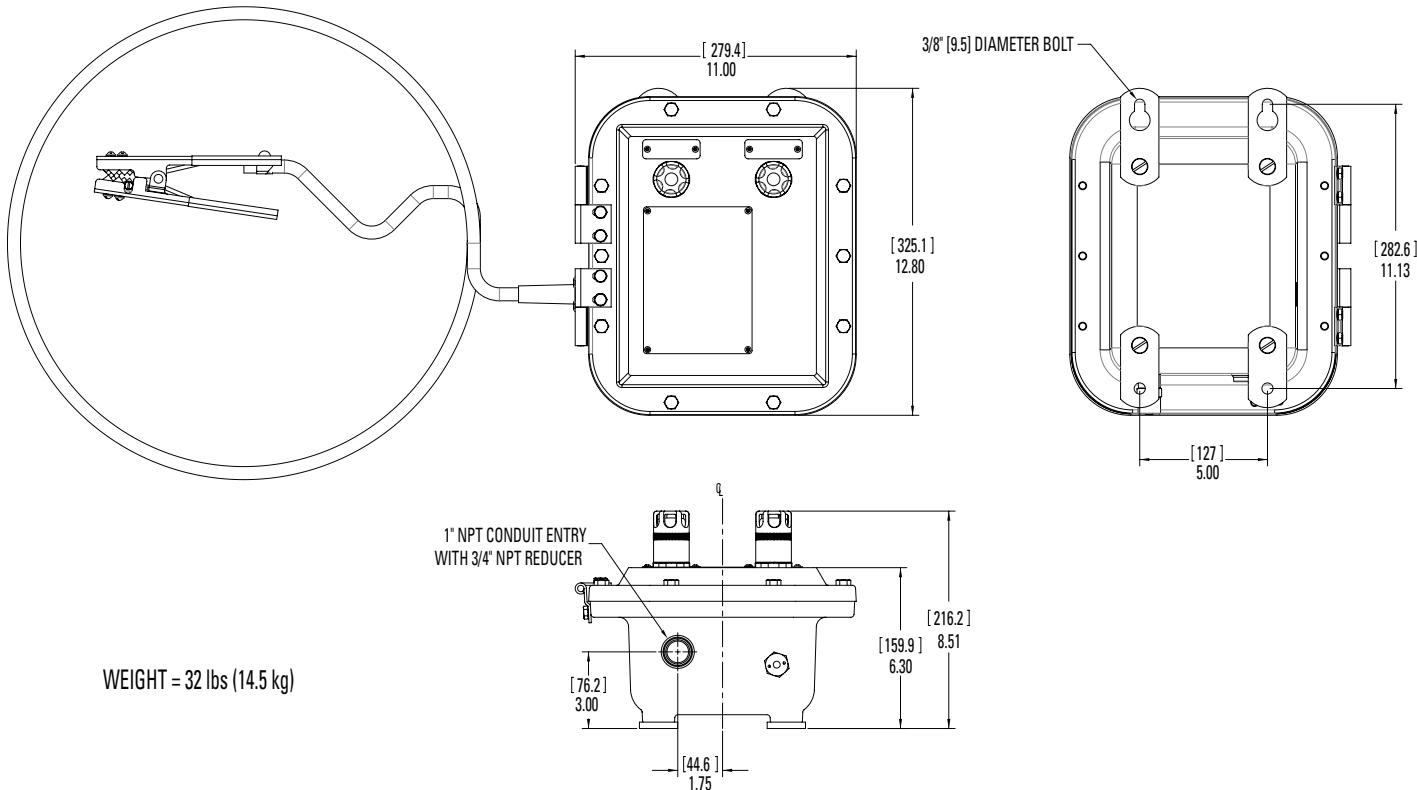

FIGURE 1
1. Select a mounting location that will provide suitable strength and rigidity for supporting the enclosure, all contained wiring and control devices. Figure 1 shows mounting dimensions.